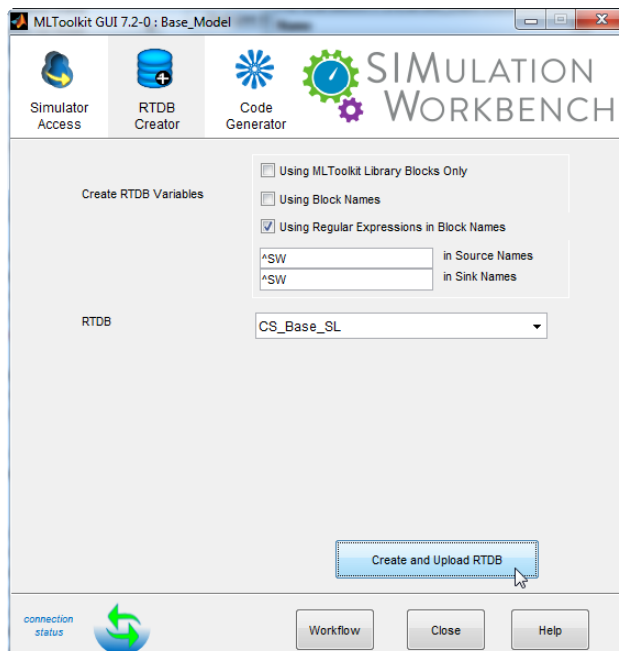

Figure 12. Simulation Workbench, RTDB Creator.
2. Click the RTDB Creator icon. Enter the name of a real-time database. Here, we will call the database CS_Base_SL (Figure 12). Press the button **Create and Upload RTDB**. This will create the database from the Simulink model and upload the files to the real-time host.